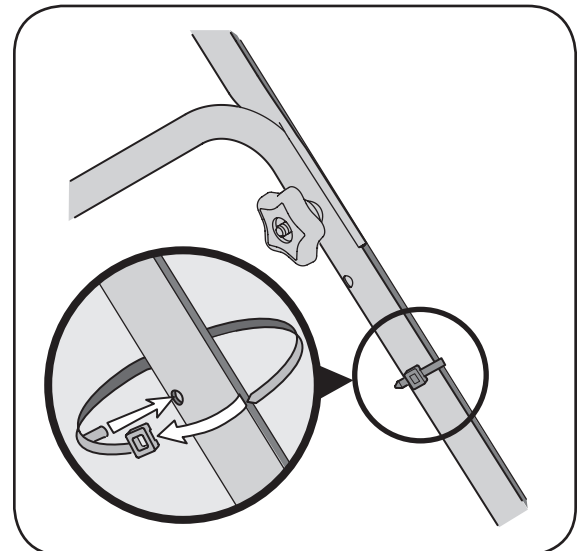

Figure 3-4: Use cable ties to secure cables to lower handle.
4. Secure cables to the lower handle using the cable ties. See Figure 3-4. Insert posts on cable ties into holes provided on the lower handle. Pull cable ties tight and trim excess.